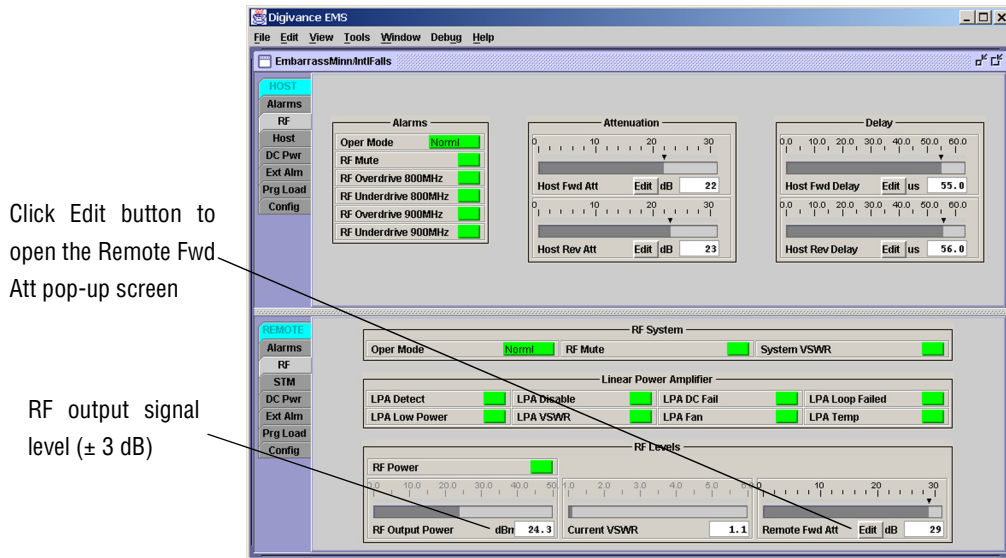
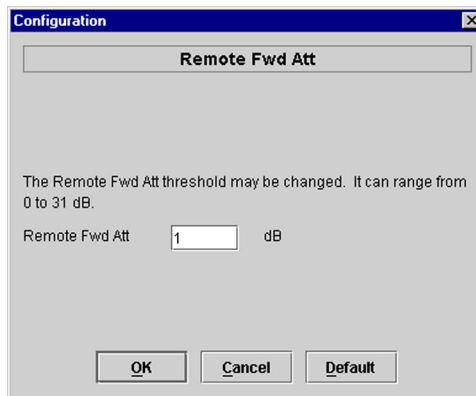

Figure 3-9. Typical REMOTE LPA Display
Figure 3-10. Remote Fwd Att Pop-Up Screen
1. Click on the REMOTE **RF** tab. The REMOTE **RF** display will open within the EMS main window as shown in Figure 3-9.
4. Click on the **Remote Fwd Att** field **Edit** button (see Figure 3-9). The **Remote Fwd Att** pop-up screen will open as shown in Figure 3-10.
6. Verify that the appropriate RF output signal level appears in the **RF Output Power** field (see Figure 3-9). This is primarily a reference value and should not take the place of external test equipment when determining the power level of the composite RF output signal. Depending on the modulation type and number of channels, the EMS software may report a power level that is higher or lower (± 3 dB) than the actual RF output signal.